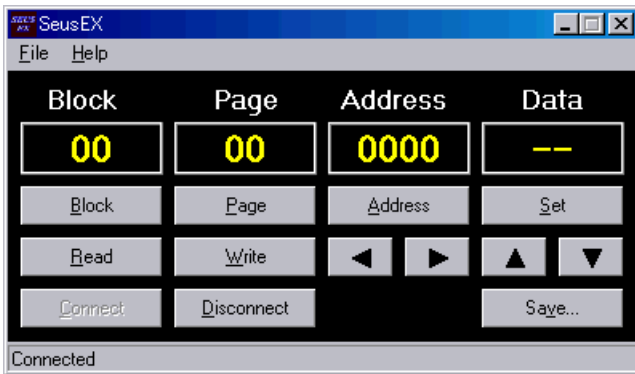

Fig. 6-2-1
- 4) Click **[Connect]** on the SeusEX screen. If the connection is normal, the SeusEX screen will be as shown in Fig. 6-2-1, indicating the “connected” state.